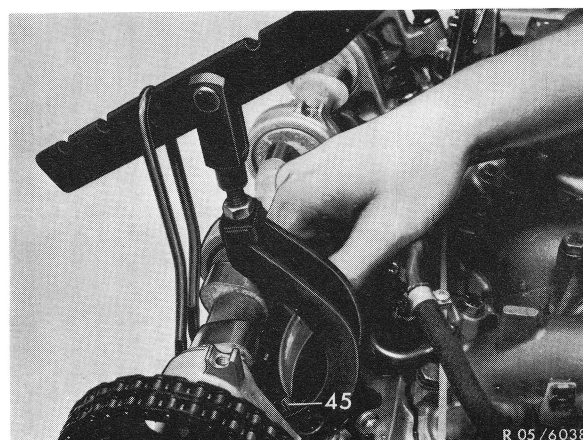

Fig. 1
- 4 Push valve spring retainer with removing and installing tool downwards until the valve cone halves (45) are free and can be removed with magnetic lift (Fig. 1).